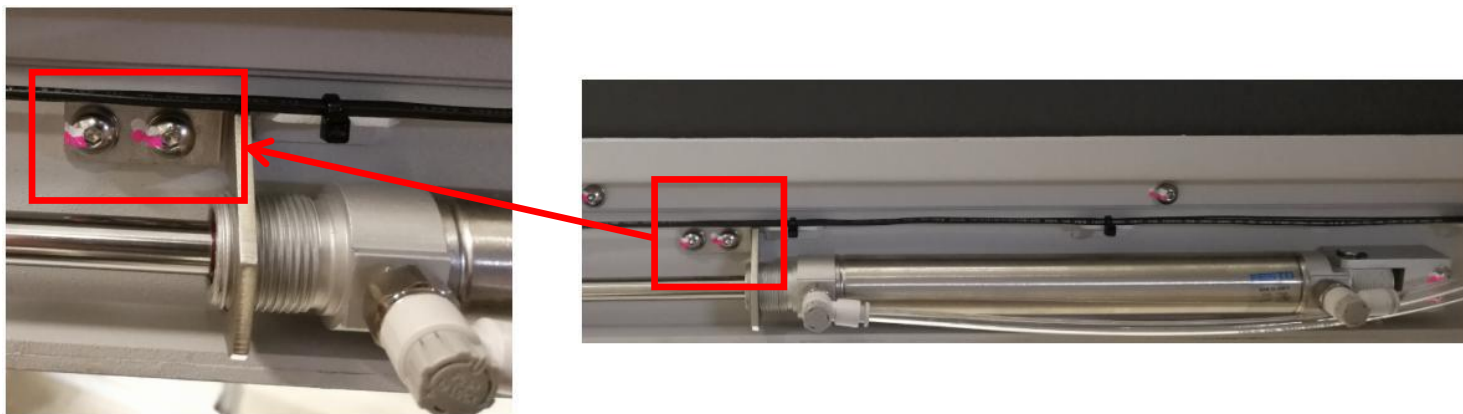

Figure 24
27. Assemble Front Cylinder Holder at outer barrier cylinder & tighten 2 x screws as Figure 24